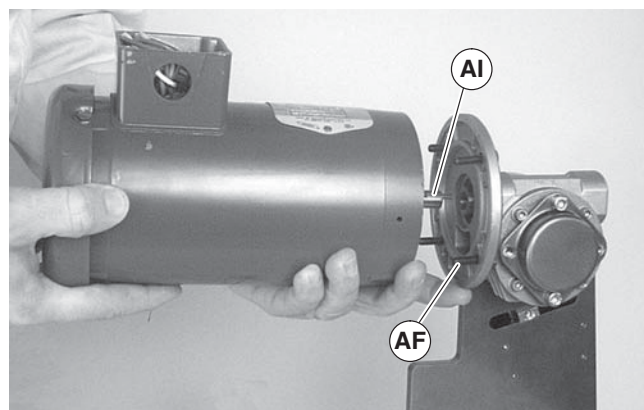

Figure 30
5. With key (Figure 30, item AI) in keyway, slide motor and gear reducer together. Install screws (AF) and tighten.